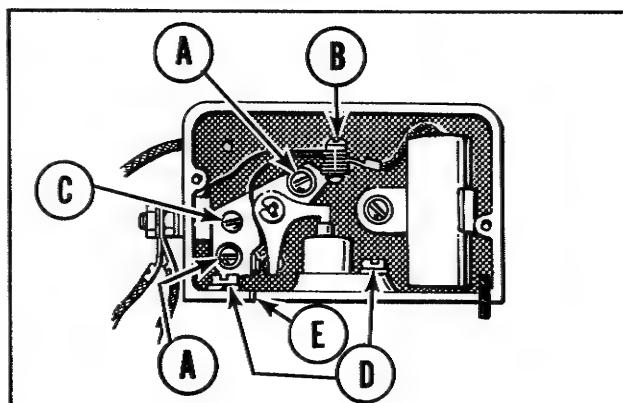

Figure 32. Breaker point box.
6. See figure 32. Remove the two mounting screws marked (A) and pull the points out of the box just far enough so screw (B) can be removed.
7. After removing screw (B) replace the points with a new set. Replace, but do not tighten the two mounting screws (A).
6. See figure 32. If the timing is very far off, attain an approximate setting by loosening the mounting screws (D) and shift the breaker box (and spacer if used) to align the reference marks (E) on the crankcase and breaker box (or spacer).
8. Slightly loosen the two mounting screws (A) in figure 32 to adjust the point gap to .020".
9. Start the engine and check the timing. With the two screws (D) slightly loose, the breaker point box can be moved left to advance the spark or right to retard the spark (as you face the breaker point box from the front of the engine).